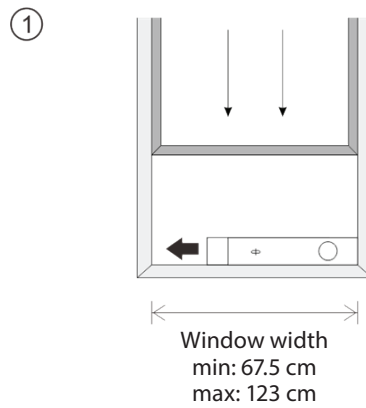

Fig.5
The window slider can be installed either "vertically" or "horizontally.". As shown Fig.5 and Fig.5a, check the min. and max. size of the window before the installation.
1. Install the window kit on the window (Fig.5, Fig.5a);